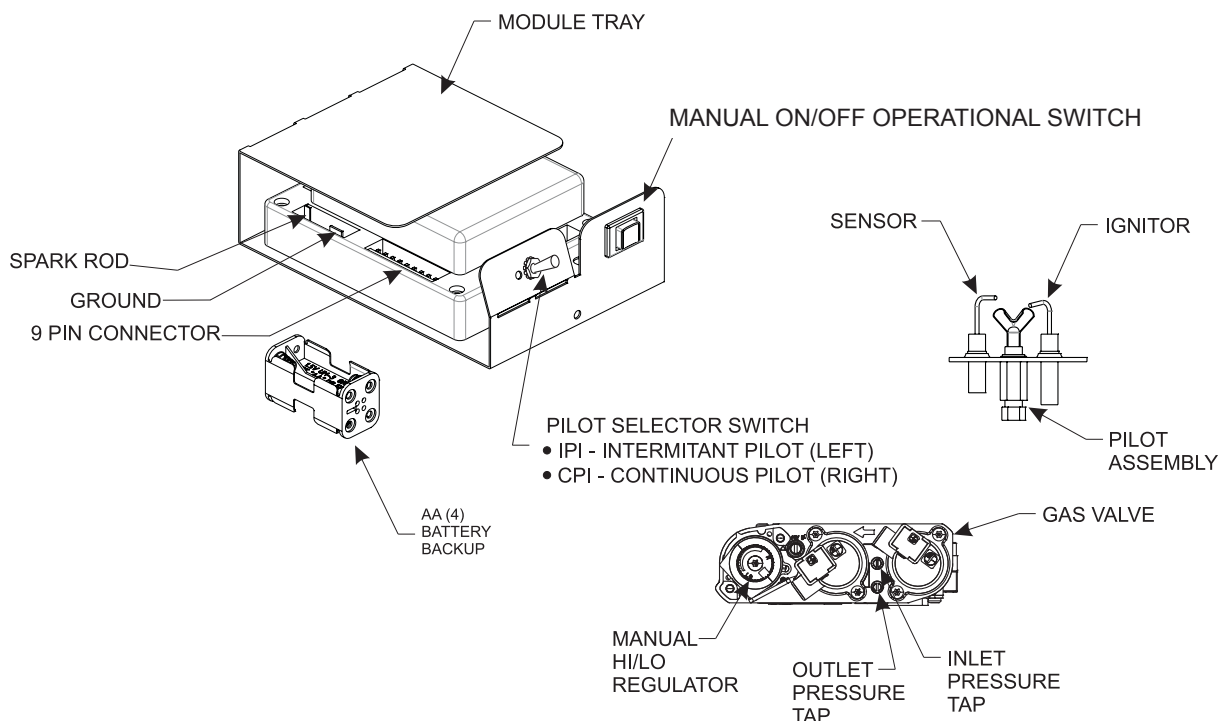

Figure 79
**NOTICE:** A small toggle switch is located on the front of the module tray that is used to switch from IPI (left) to the CPI (right). See Figure 79.
3. The gas valve has inlet and outlet pressure taps as shown in Figure 79. Refer to page 13 for gas pressure requirements.
**NOTICE:** The gas control has a manual HI/LO flame adjustment knob (regulator) that allows you to increase or decrease the height of the burner flame. See Figure 79. Rotate the HI/LO knob counterclockwise to "HI" to increase the flame height, and clockwise to "LO" to decrease the flame height.
To connect the remote receiver to the fireplace, first disconnect the ON/OFF switch wires from the white and green wire connectors and connect the wires from the remote receiver to the green and white wire connectors. See Figure 79.